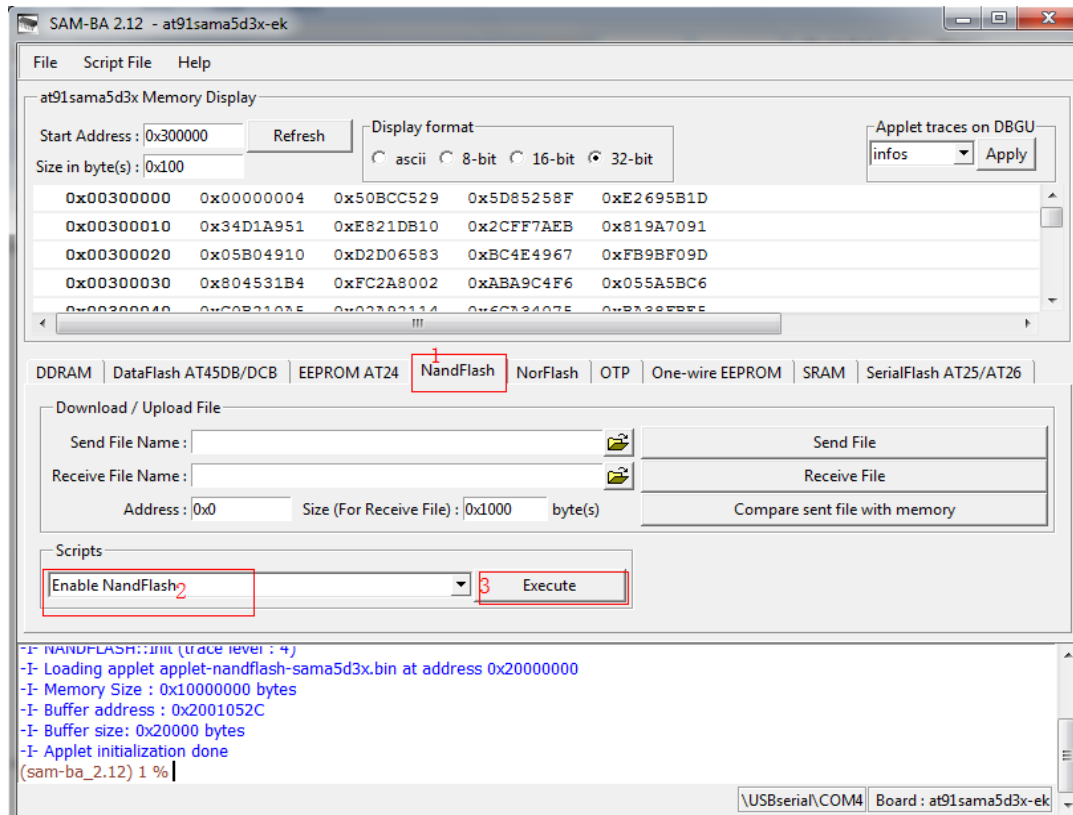

Figure 3-7
① Select **"Enable NandFlash"** in Scripts tab, and then click **"Execute"** to Enable NandFlash. Refer to figure 3-7: